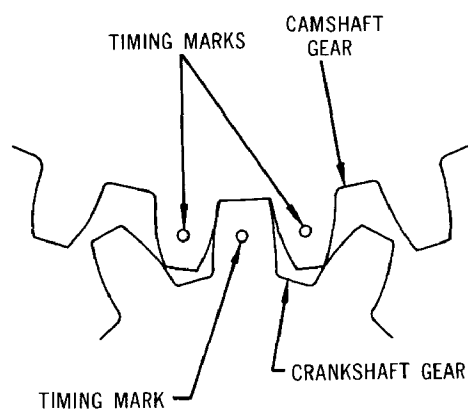

Fig. 6-4-6
- 1) Insert woodruff key in keyseat in camshaft and mount camshaft gear on camshaft, bringing marked tooth of crankshaft gear between two marked teeth of camshaft gear. (refer to Fig. 6-4-6)